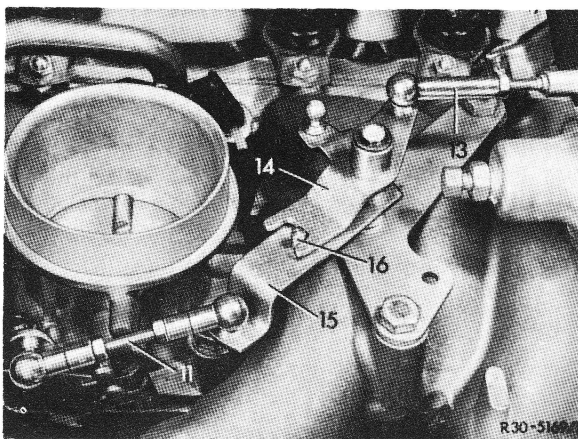

Fig. 3
a) Version without gate shift lever (Fig. 3)
Push throttle valve lever to idling speed stop and regulating lever (14) toward the rear up to stopping pin (16) (Fig. 3).